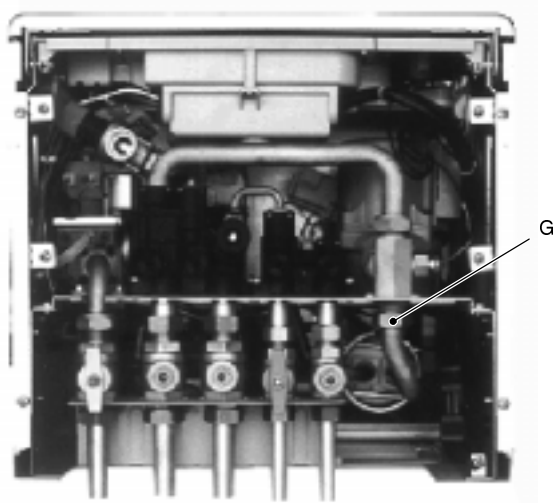

fig. 18
- 7 loosen the lower pipe fitting G (fig. 18);
- 2 Fit the pipe connection G (fig. 18).